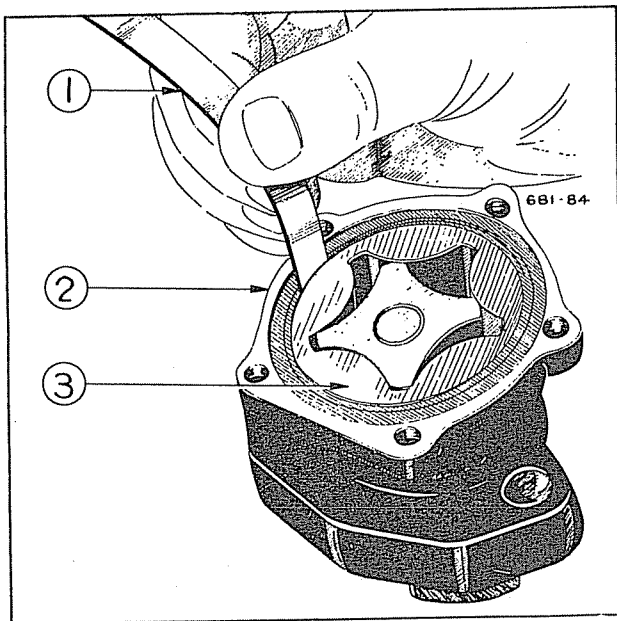

Fig. 38—Measuring Clearance Between Outer Rotor and Body.
- (11) Press the outer rotor against the pump body and measure clearance at opposite side with feeler gauge (Figure 38). If clearance exceeds .008 inch, replace pump body. (This inspection is not necessary if a new pump body is being used.)